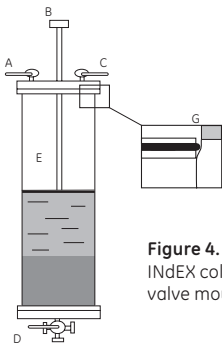

Figure 4. Schematic representation of INdEX column with a 4-port (2-way) valve mounted at the bottom outlet.
2. Pour the 75% slurry into the column. Fill the column with packing solution up to the top of the glass tube and mix the slurry. Allow the medium to sediment to just below the bevel of the glass tube (G), see Figure 4.
5. Connect a pump to the inlet of the hydraulic chamber (A), with a manometer and a pressure relieve valve in-line between the pump and the hydraulic chamber. The manometer should be placed after the valve in the direction of the flow.
6. Open the hydraulic inlet (A), and the hydraulic outlet (C). Start the pump and flush the hydraulic chamber (E) free of air and any residual medium.
7. Close (C) and open the elution inlet/outlet (B) to allow trapped air in the adaptor bed support to escape.
8. Close (B) and open the elution inlet/outlet (D) to start the packing, applying a predefined constant hydraulic packing pressure. When packing Sepharose 6 Fast Flow based media in an INdEX column to a bed